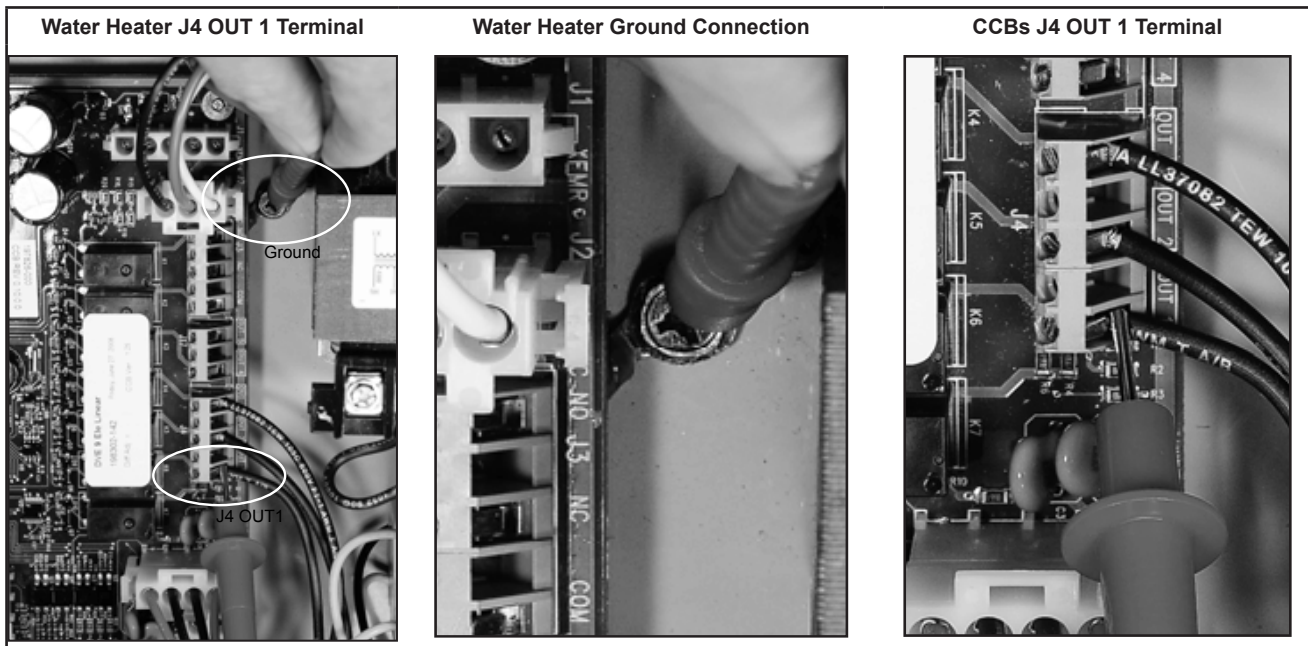

Figure 31. Checking Contactor Coil Voltage at the CCB's J4 & J17 Wiring Terminals
4. Touch one of the two volt meter probes to the ground wire connection on the water heater. Touch the other volt meter probe to the CCB's J4 OUT 1 wiring terminal. See the images in **Figure 31**. On water heaters equipped with more heating elements, also check between the ground connection and the CCB: J4 OUT 2 wiring terminals and on water heaters equipped with 9 elements also check between ground and the CCB's J4 OUT 3 wiring terminal. Measure and record voltage readings taken in this step.